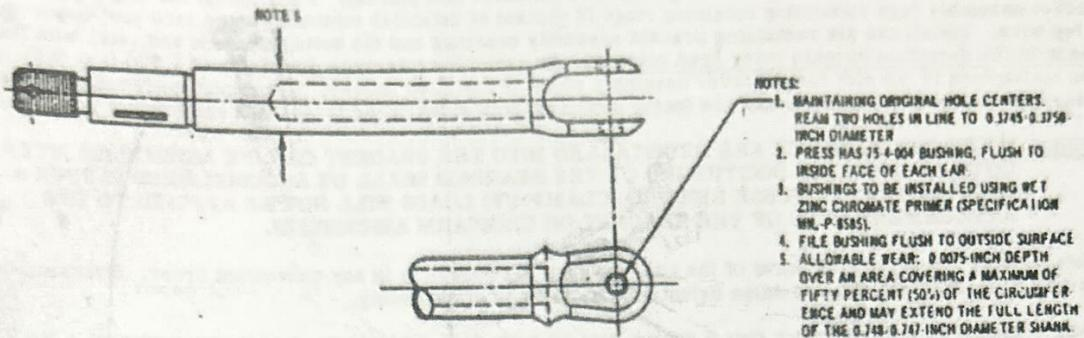

Figure 31-1-9A. *Repair of Collective Pitch Upper Push Rod
(3) Use a No. 29 drill (0.136-inch diameter) to drill a hole through one side of each bushing at the set-screw location. Take care not to damage threads in bracket while drilling.
(4) Install setscrews, making certain that each setscrew tip enters hole in bushing. Stake setscrews in place to prevent them from loosening.
(5) Use a 47/64-inch diameter drill to drill each bushing inside diameter to 0.735-inch.
(6) Use an 0.750-inch diameter reamer to line ream each bushing inside diameter to 0.751-inch maximum.
d. Replace the upper internal push rod whenever the shank is worn more than 0.0075-inch in depth. (See figure 31-1-9A.) An allowable wear of 0.0075-inch depth is permissible around 50 percent of the pin circumference along the full length of the shank. Install bushings in the rod assembly if the attaching bolt hole diameter exceeds 0.256-inch. An out-of-round hole is permissible provided that the maximum diameter is not exceeded. An oversize hole may be repaired as follows:
(1) Enlarge existing bolt holes by drilling and reaming to a finish inside diameter of 0.3745/0.3750-inch.
(2) Coat an NAS75-4-004 bushing with primer (table 10-VI, item 3). Provide adequate support under the inside surface of one of the push rod ears and install bushing while primer is still wet. Install bushing so that it is flush with the inside surface.
(3) Repeat step (2) for the opposite ear.